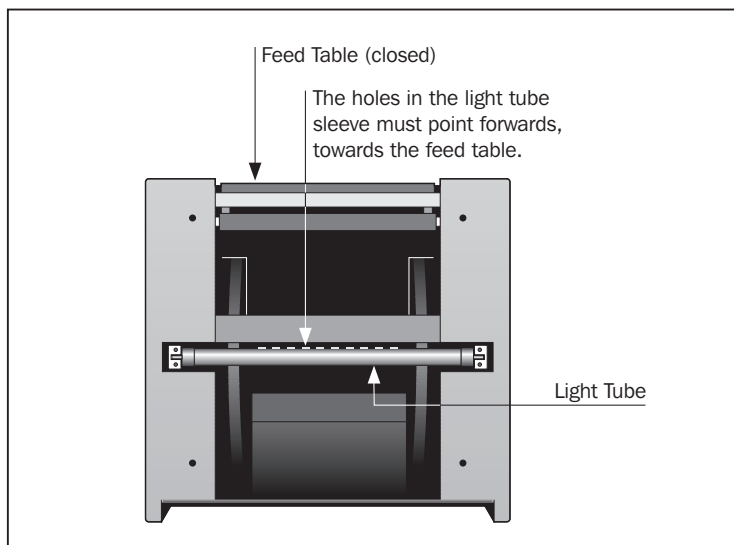

Figure 7: Bottom view of the scanner with the bottom panel removed
6. The light tube is clearly visible, as shown in Figure 7. Hold each end of the light tube between your thumb and index finger. Rotate the light tube until it comes free and pull it away from the scanner. Note that the light tube sockets allow the tube to be rotated all the way around, but they click into position at each quarter turn. The light tube is locked in place in all but one of these four positions, so you may need to try up to three positions before the light tube comes free.